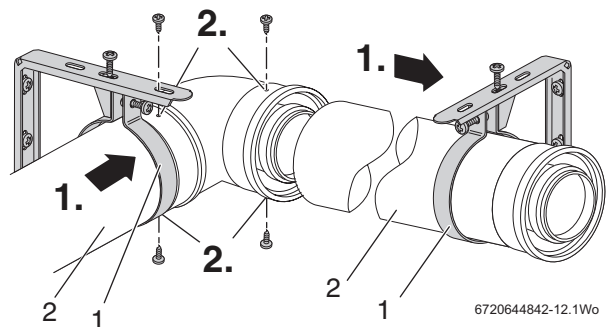

Fig. 23 Extensions
- Refer to figure 23 and slide the support clamps (1) onto the additional flue extensions (2).
- 1. Working from the boiler, fit the support clamps (1) and extensions (2), to take the weight of the flue.